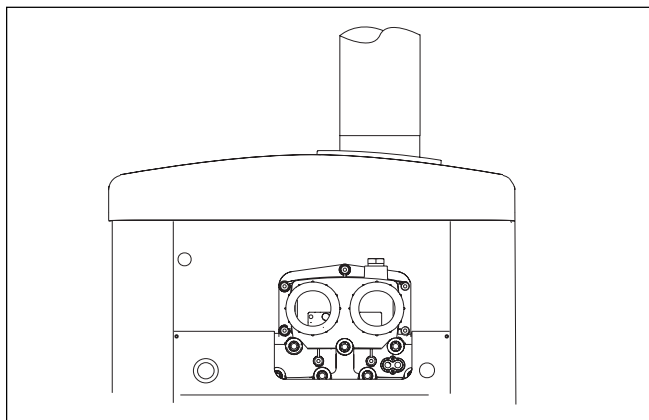

Figure 5. "Vent Pipe" Installation.
3. Install the vent pipe on the indoor vent collar. The collar will accommodate vent piping of nominal 7" or 9" diameter, depending upon the model of your heater (See Figure 5). See vent installation section for important information on selecting proper pipe size.